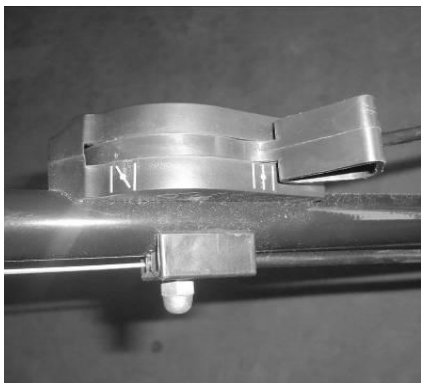

Fig.9A Fig.9B
2. When starting the cold engine, turn the throttle lever to the position  (Fig.9A)
When warming up the engine while running, turn the throttle lever to the position  (Fig.9A)